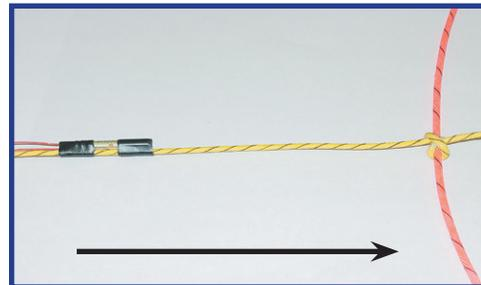

Figure 77 - Electric detonator taped to pigtail for initiation of trunkline.
1. Wrap the cord and detonator securely together with electrician's tape at the desired initiation point, at least 20 cm (8 in) from the cut end of the cord (Figure 77).